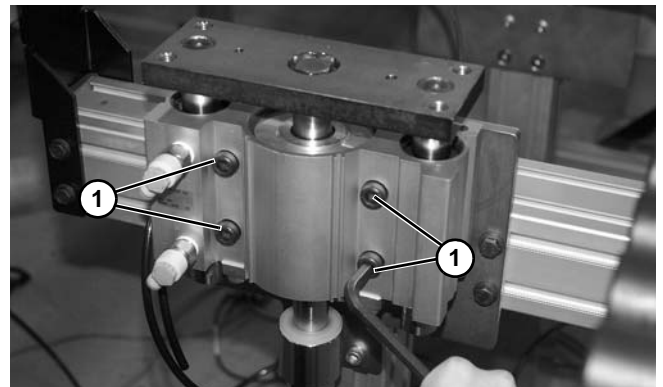

Figure 94
8. Remove four socket head screws (**Figure 94, item 1**) securing cylinder to conveyor frame.